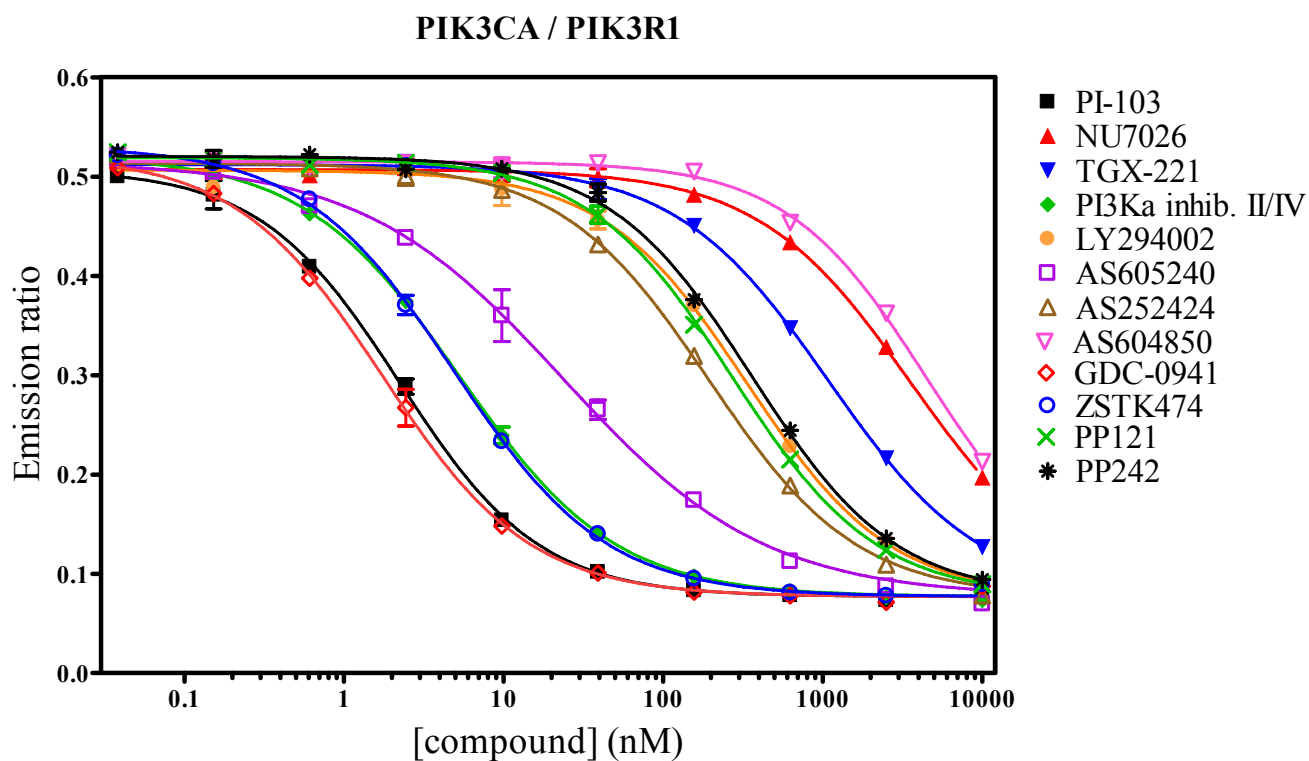

Figure 7. Representative data generated at Invitrogen.
2. Plot [test compound] versus emission ratio. The sigmoidal dose-response curve with a variable slope can be fit to the data (see section 1.3, step 2 for equation). Representative data generated by Invitrogen for a set of well-characterized kinase inhibitors is presented in Figure 7. A comparison of IC₅₀ values to literature and in some cases internally generated data from activity-based assays are provided as a reference in Table 1.